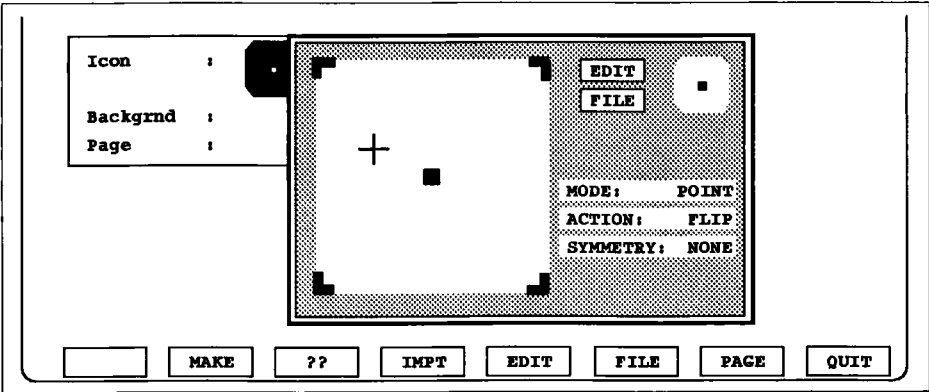
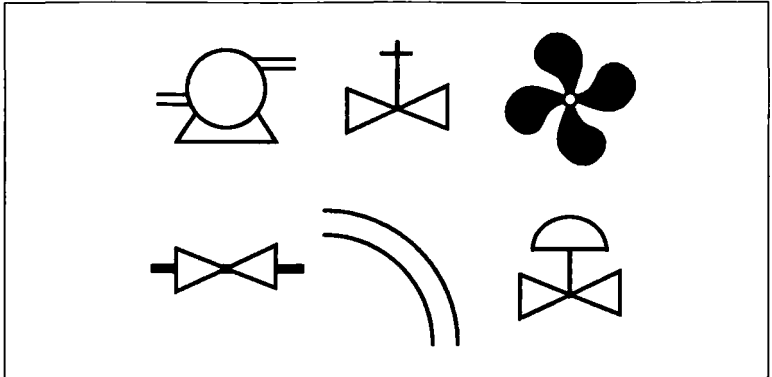

Figure 4.13 *ICON Symbol-Build Screen*
Figure 4.14 *ICON Examples*
- **ICON.** With this option you can link your static custom symbol to a specified graphics page so that during runtime, ENTERing the symbol displays the linked page (or window). The symbol-build screen is shown in Figure 4.13, as it appears (four times actual size) when the ICON configuration menu is accessed. Figure 4.14 shows some examples of ICONS.